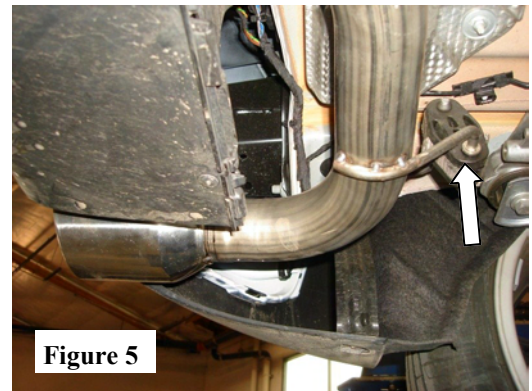

Figure 5
2. Place provided clamp over Muffler Assembly outlet pipe. Slip Tail Pipe Assembly over this outlet pipe and insert hangers into rubber isolators. **DO NOT TIGHTEN CLAMP.** (See Fig.5)